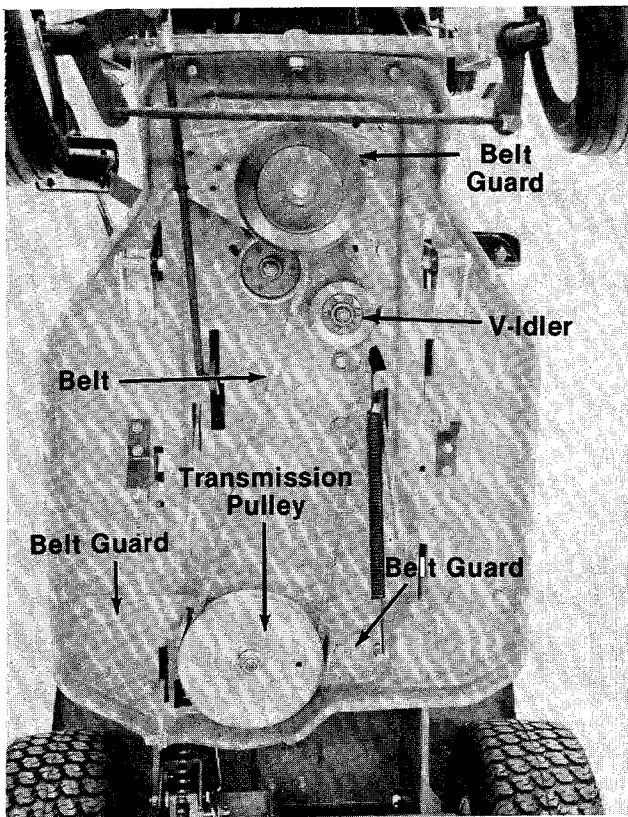

FIGURE 31.
6. Remove the six pins holding the deck to the frame. See figure 31.
#### TRANSMISSION BELT (See figure 31)